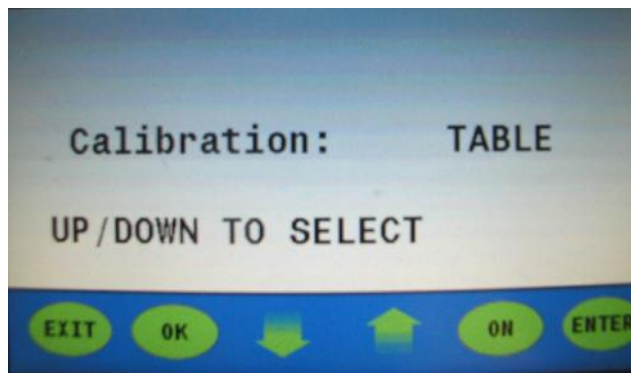

Figure 5
12. The display will read “Calibration: TABLE”. **(Figure 5)**